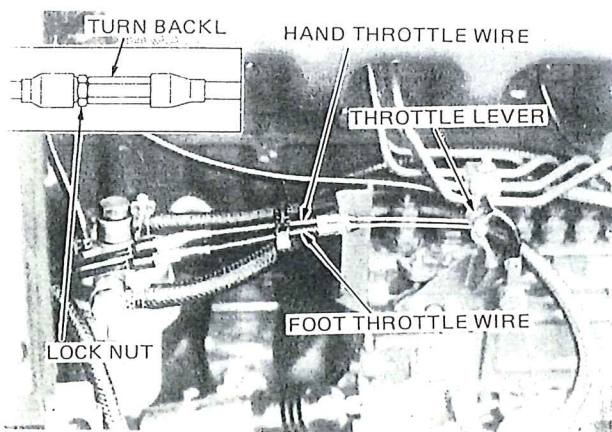

Figure 59 – Throttle Adjustment
1. Loosen the lock nuts, Figure 59.